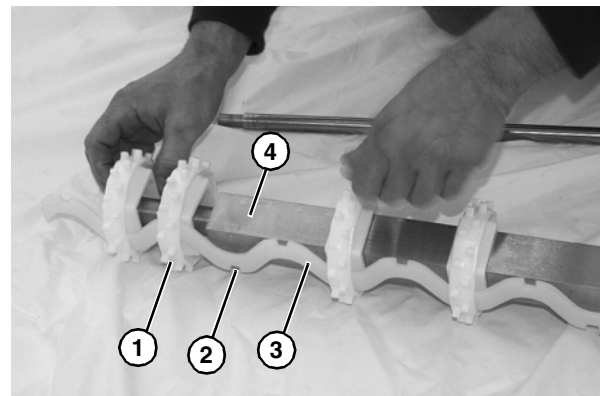

Figure 69
1. Assemble sprockets (Figure 69, item 1) to the slots (Figure 69, item 2) of alignment bar (Figure 69, item 3), and install assembly onto drive spindle (Figure 69, item 4).